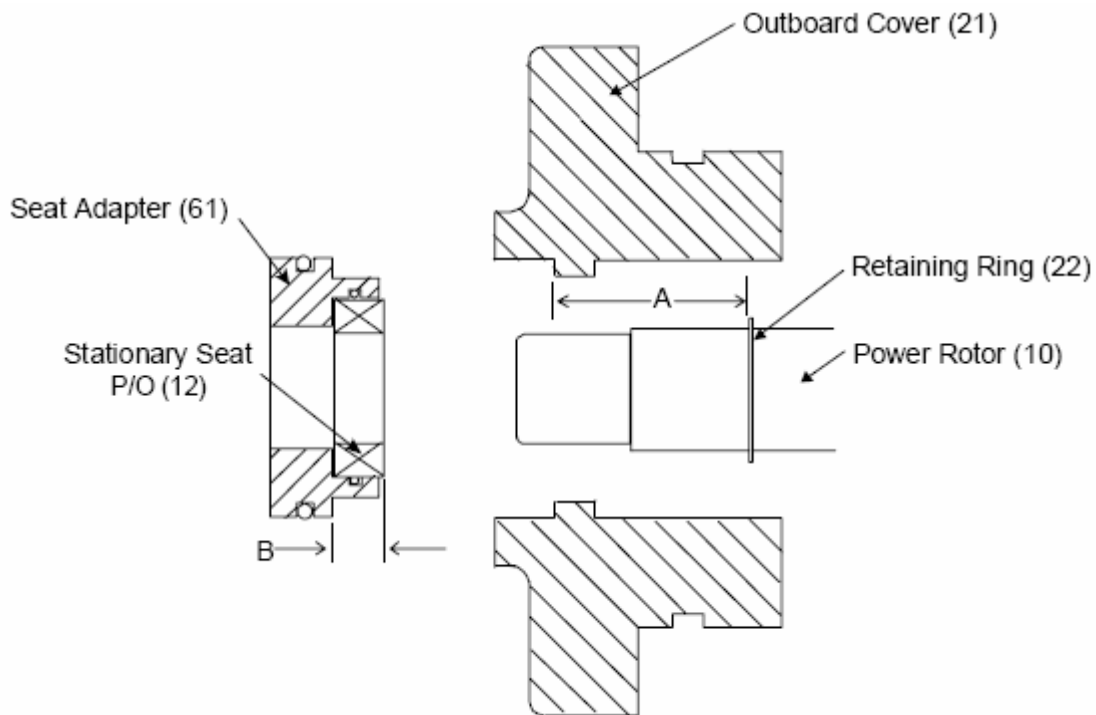

Figure 3 – Shim Thickness Measuring
7. Install bearing retainer (7) on inboard cover (4) using bolts (8). Torque bolts (8) to proper value for pump size in torque table 2.
8. Install idlers (11) into housing (2) by meshing threads with power rotor thread and screwing them into housing idler bores.
9. Assemble bolts (19) through thrust plate (51) and spacers (17) on bolts (19) and then attach thrust assembly to housing (2). Torque bolts (19) to proper value for pump size in torque table 3.
10. Install retaining ring (22) in groove of outboard end of power rotor (10).
11. Install O-ring (3) and, if 250 size, back-up ring (20) to outboard cover (21) and install outboard cover (21) to case (1) using cap screws (6). Torque cap screws (6) to values specified in Table 3. Be sure heads of bolts (19) fit into anti-rotation slots in outboard cover (21). If they do not, turn thrust plate (51) and housing (2) until idler bores are horizontal and bolt heads fit.
12. To find proper shim thickness, perform the following. See Figure 3.
- a. Determine dimension "A", (Figure 3) by measuring distance from counter-bore of outboard cover (21) to installed retaining ring (22)
- b. Determine dimension "B", (Figure 3) by installing seal stationary seat (ensuring that the anti-rotation pin is properly seated) and O-ring in seat adapter (61). Measure distance from shoulder of seat adapter (61) to face of seal stationary seat.
- c. Subtract measurement “B” from measurement “A” and add 0.010 inch. From this dimension, subtract the working length of the mechanical seal (1 3/8 (1/64 inch). The resulting dimension will be the proper thickness of shim (23).